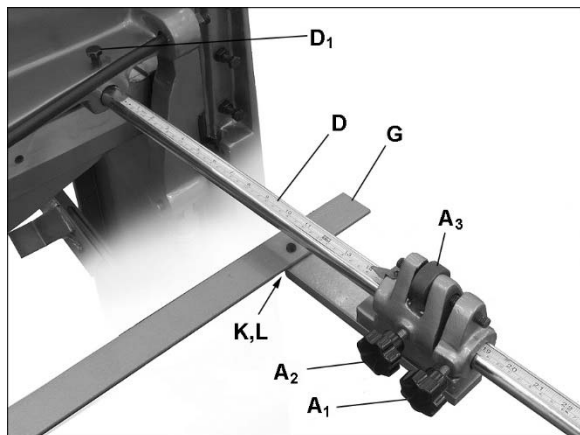

Figure 4
- 1. Insert rod (D, Figure 4) through adjustment block (A) and into frame. Make sure both rods are inserted an even amount into the frame. Tighten securely in place with screw (D₁).
2. Attach back stop (E) to adjustment block flange with M10 screw and flat washer (K,L) from underneath.
1. To position back stops, loosen all knobs (A₁, A₂, Figure 4) and slide adjustment blocks close to desired position on scale.